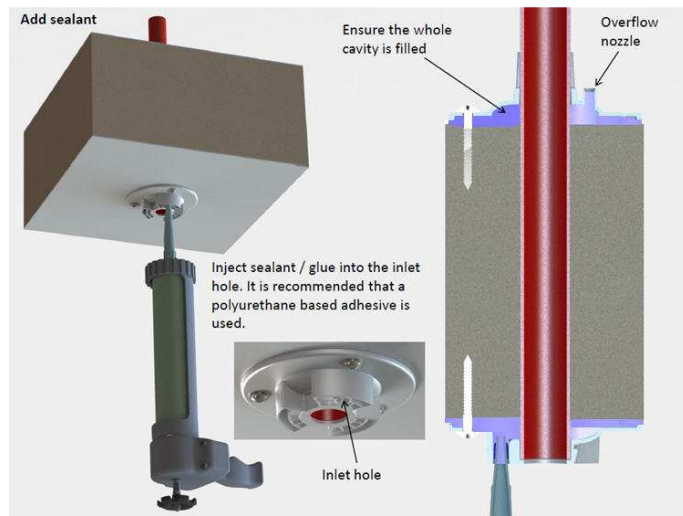

Figure 4 – Applying sealant
6. Insert the sampling pipe (330mm (1ft) in length approximately) into the hole with the aid of spring fingers to retain the pipe in the hole. Clean the surface and secure the flange to the sandwich panel using three (3) of the self-tapping screws provided. Attach the flange to the conduit using the metal clamp provided.
7. Mount the lower flange on the bottom of the hole (inside the temperature controlled room). Clean the surface and secure the flange using the remaining three (3) self-tapping screws provided.
8. Ensuring all surfaces are clean and dry, apply sealant (a polyurethane based adhesive recommended) through inlet holes on both top and bottom flanges, see Figure 4.